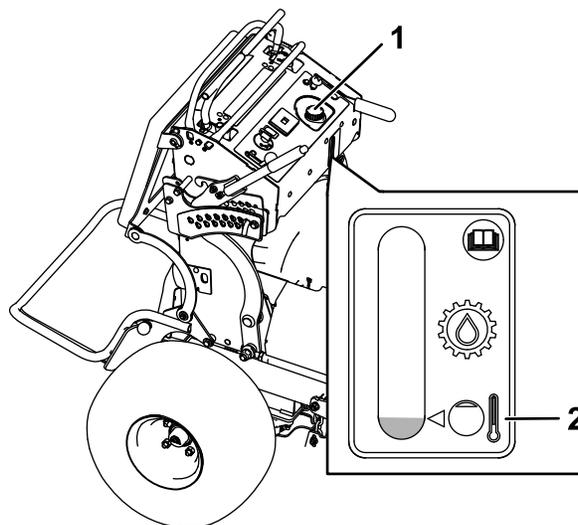

Figure 77
4. Clean the area around the cap and the filler neck of the hydraulic tank (Figure 77).
5. Remove the cap from the filler neck (Figure 77).